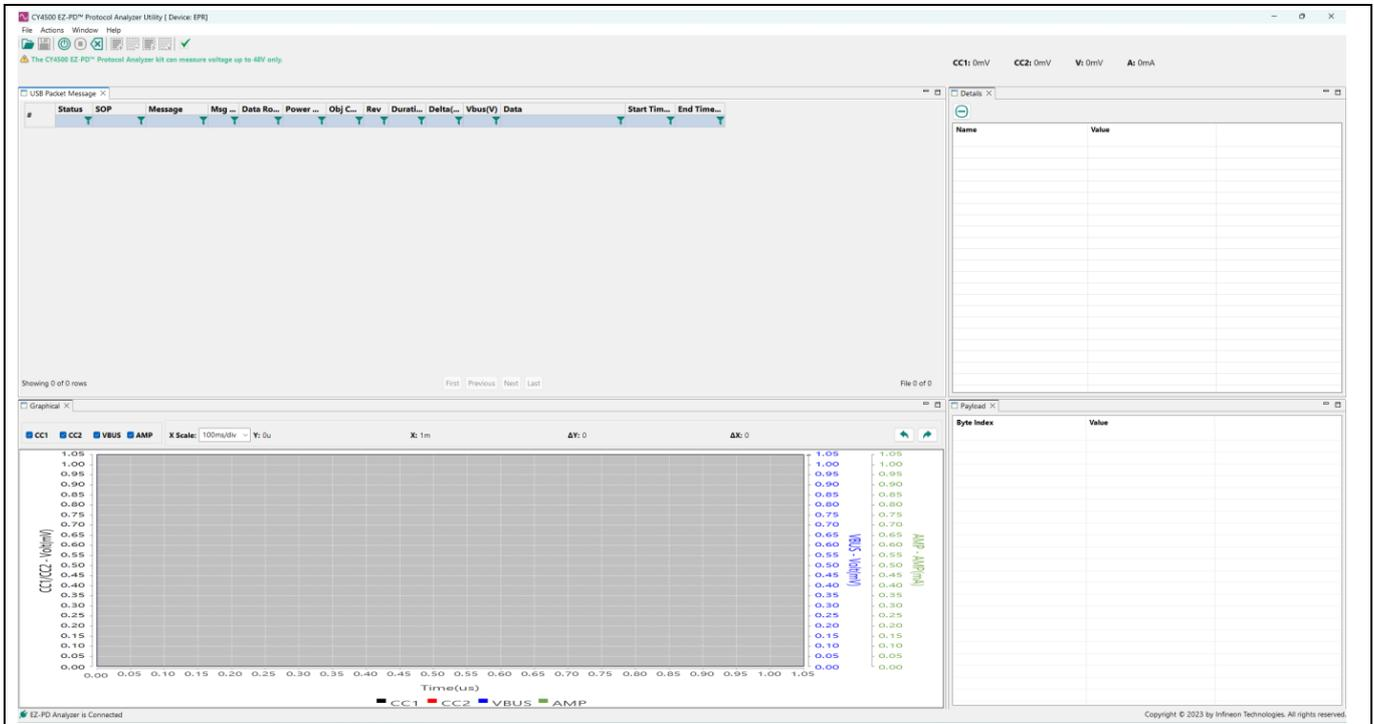

Figure 12 EZ-PD™ Analyzer Utility start-up page
- On the host PC, launch the EZ-PD™ Analyzer Utility from **Start > All Programs > Infineon EZ-PD™ Analyzer Utility**. The EZ-PD™ Analyzer Utility’s start-up page looks similar to the image shown in Figure 12.
The Start capturing icon then changes to the **Stop Capturing** icon once the capturing starts. Alternatively, you can also start capturing data by clicking on **Actions > Start Capturing** from the menu bar. The status bar at the bottom of the utility window shows the message “started capturing” (similar to the status bar at the bottom of Figure 12).